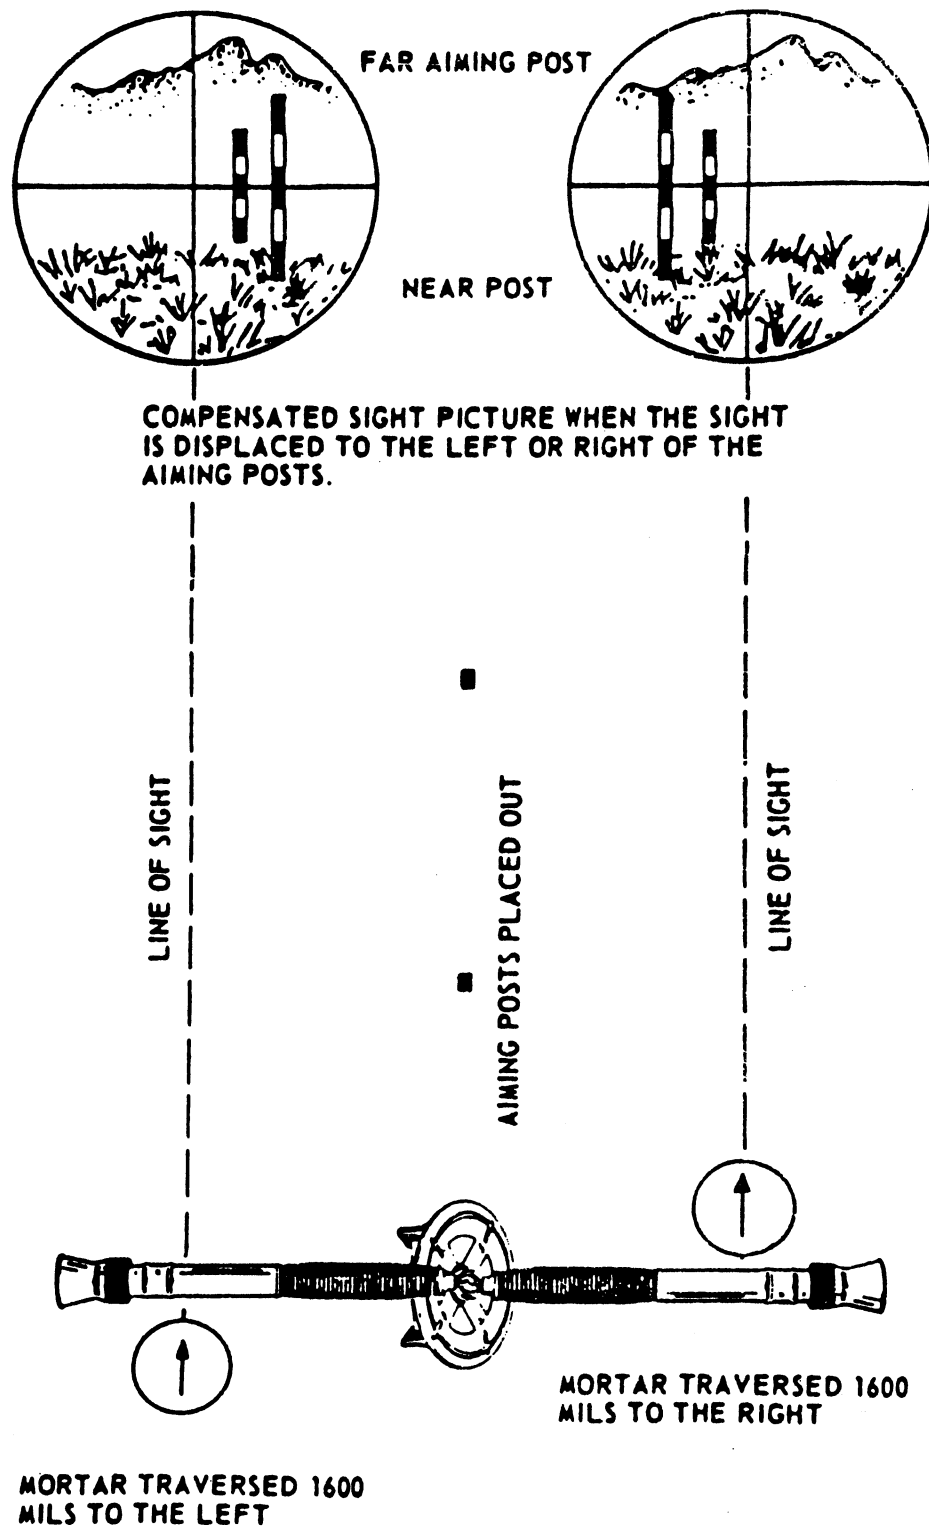

Fig 4-17. Compensated sight picture.
b. When you must use a compensated sight picture, you manipulate the mortar in order to align the vertical cross-hair, by estimation of the eye, to a point where the left edge of the near aiming post and the cross-hair are the same distance from the left edge of the far aiming post. The sight picture that you will see should look like the one shown in figure 4-17 on the following page.